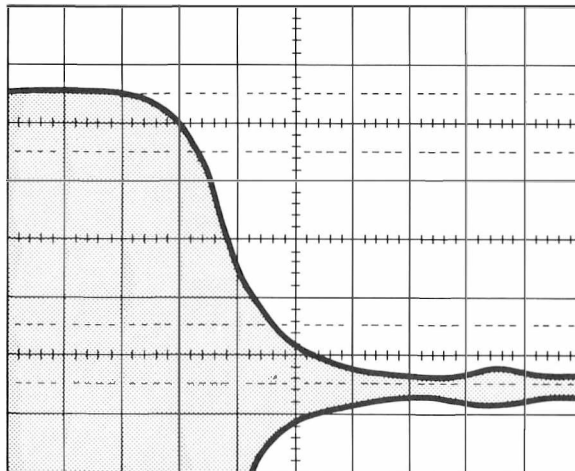

Figure 5-49d. Pulse Modulation Fall Time Waveform.
14. Adjust the oscilloscope horizontal position control to view the modulation envelope fall time. Position the waveform so that the 90% point of the modulation envelope crosses a convenient vertical graticule. Refer to Figure 5-49d.